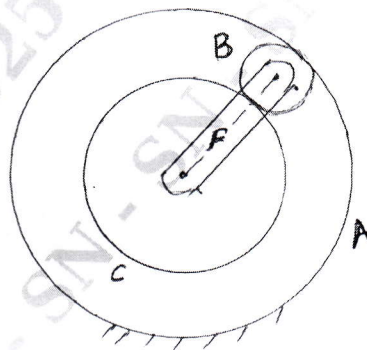

Fig. Q10(b)
b. An epicyclic gear train consists of three gears A, B and C as shown in Fig. Q10(b). The internal gear A has 72 teeth and gear C has 32 teeth. The gear B meshes with both gear A and C and is carried on an arm F, which rotates about the centre of gear A and C at 20 rpm. If the gear A is fixed determine the speed of gears B and C using Tabular column method. (14 Marks)